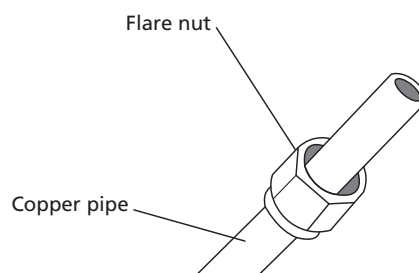

Fig. 8.3
3. Place flare nuts on both ends of the pipe. Make sure they are facing in the right direction because you can't put them or change their direction after flaring. See Fig. 8.3.